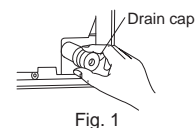

Fig. 1
- Put the refrigerant piping and the drain hose together, then firmly apply felt tape (4) from the end. Felt tape (4) overlap width should be 1/3 the tape width. Use a bandage stopper at the end of felt tape (4).
- Pull out the drain cap at the rear right of the indoor unit. (Fig. 1)